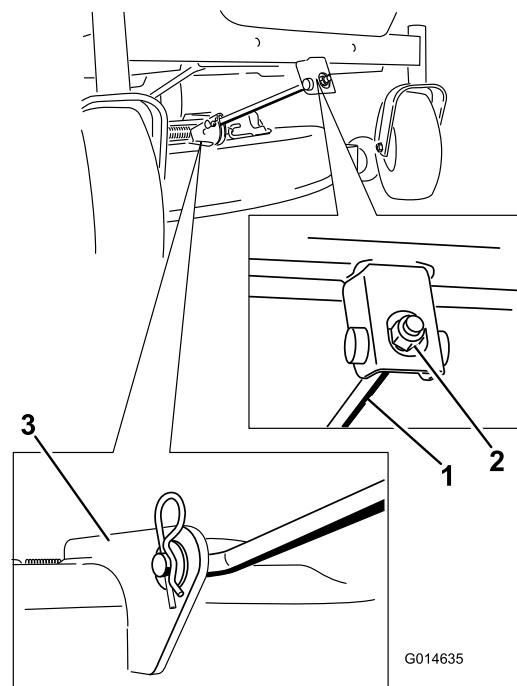

Figure 64
4. Remove the hairpin cotter from the front support rod, and remove the rod from the deck bracket (Figure 64).
- Attach the front support rod to the mower deck with the clevis pin and hairpin cotter (Figure 64).